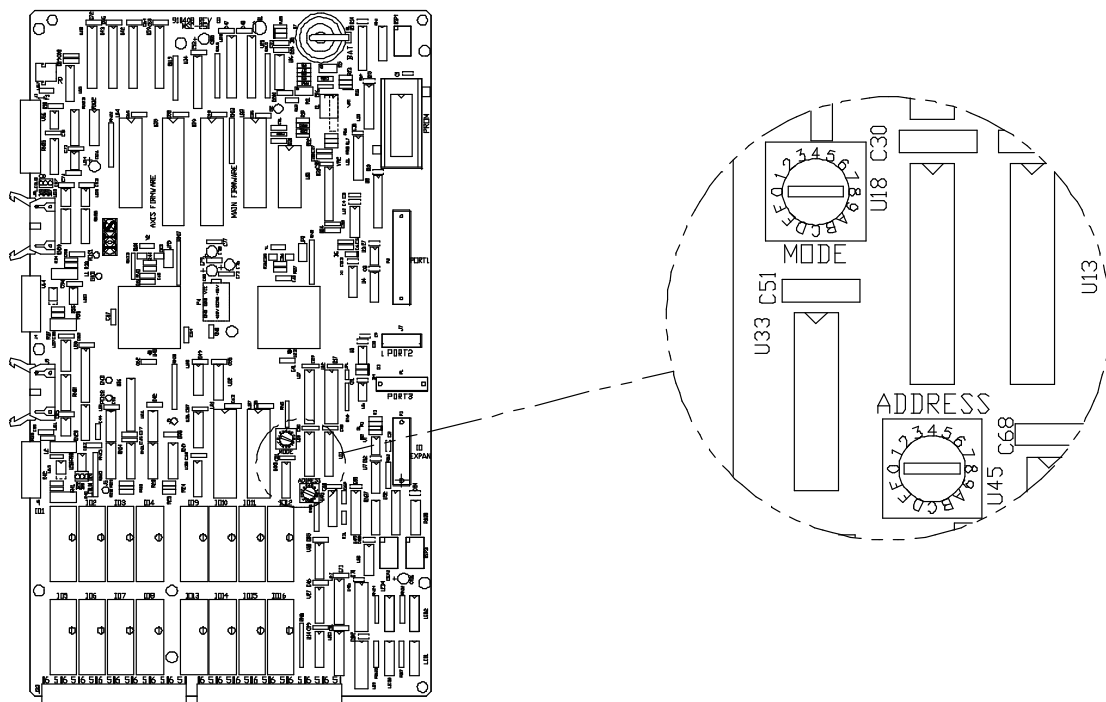

Figure 3.1 - ADDRESS and MODE Selector Switches
2. Open the controller cover and set the ADDRESS selector switch to "0" for RS-232C communications (refer to **Figure 3.1**). For RS-485 communications, set the switch to location "1" through "F" depending on the address of the controller on the communications network.
3. Make sure the MODE selector switch is set to the desired power-up configuration (refer to **Figure 3.1**).
Make sure the ADDRESS selector switch is set to "0" for RS-232C communications. For RS-485 communications, the switch must be set to location "1" through "F" depending on the address of the controller on the communications network. Make sure the MODE selector switch is set to "0" (refer to Figure 3.1).